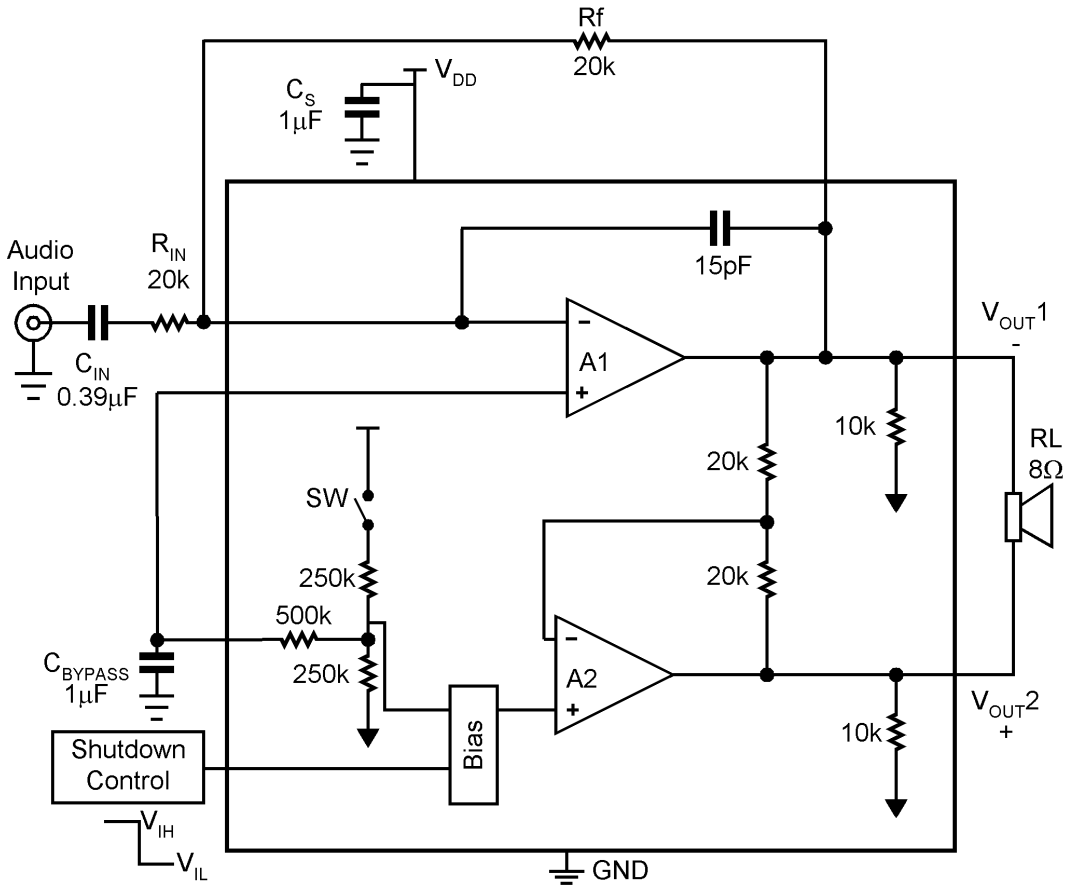

FIGURE 1. Typical Audio Amplifier Application Circuit
■ PSRR at 217Hz, V _{DD} = 5V (Fig. 1)	62dB(typ.)
The following specifications apply for the circuit shown in Figure 1 unless otherwise specified. Limits apply for $T_A = 25^\circ\text{C}$.
The following specifications apply for the circuit shown in Figure 1 unless otherwise specified. Limits apply for $T_A = 25^\circ\text{C}$. (Continued)
The following specifications apply for for the circuit shown in Figure 1 unless otherwise specified. Limits apply for $T_A = 25^\circ\text{C}$.
Note 14: PSRR is a function of system gain. Specifications apply to the circuit in Figure 1 where $A_V = 2$. Higher system gains will reduce PSRR value by the amount of gain increase. A system gain of 10 represents a gain increase of 14dB. PSRR will be reduced by 14dB and applies to all operating voltages.
External Components Description *(Figure 1)*